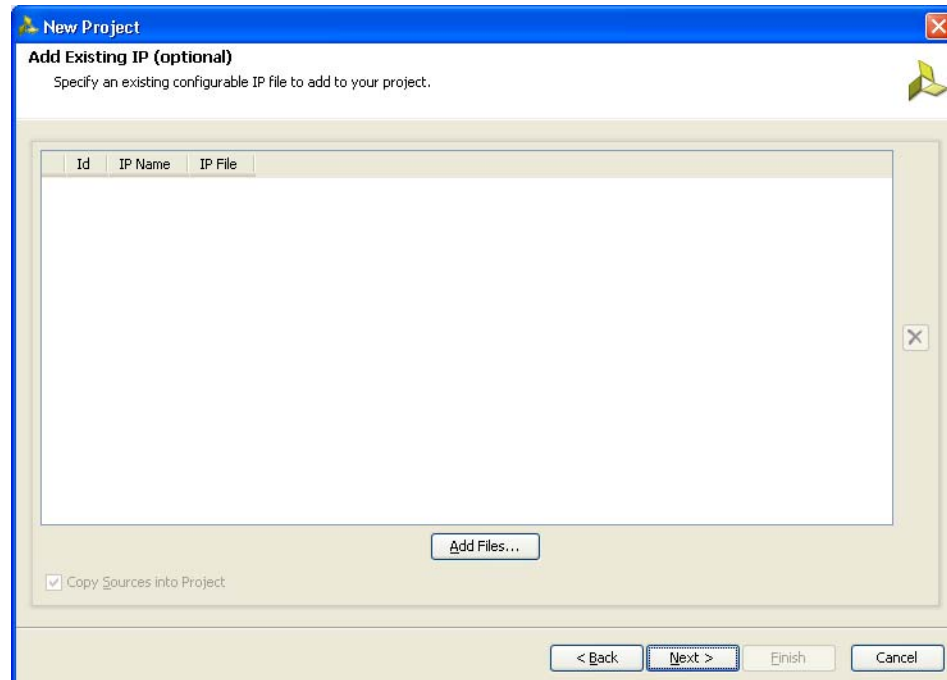

Figure 5-6: Add Existing IP (Optional)
- Click **Next** to open the **Add Existing IP (Optional)** page (Figure 5-6). If the IP is already created, the XCI file generated by the IP can be added to the project and the previous created IP files are automatically added to the project. If the IP was not created earlier, proceed to the next page.